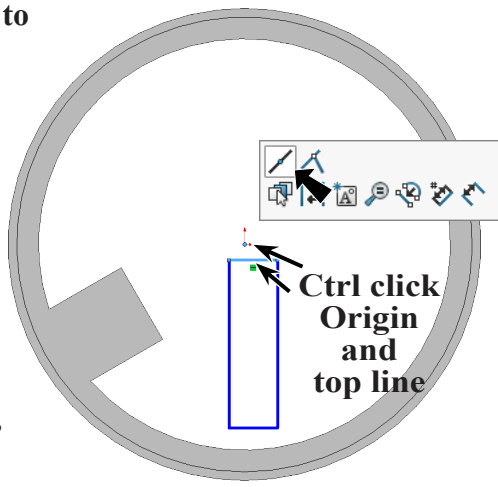

Fig. 69
Step 7. **Ctrl click top horizontal line of rectangle and Origin**  to select both. Release Ctrl key and **Make Midpoint**  on the context toolbar, **Fig. 69**.